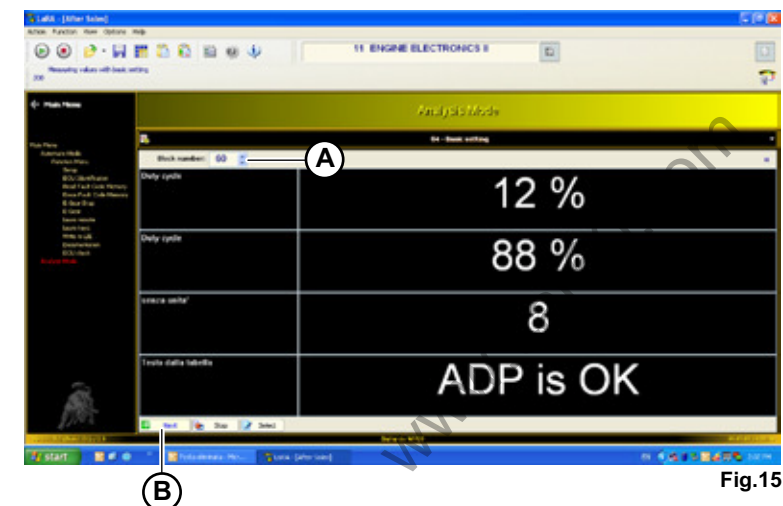

Fig.15
- Select routine 60 inside the block number (**A-Fig.15**).
- Start the connection () and press the start push-button (**B-Fig.15**).